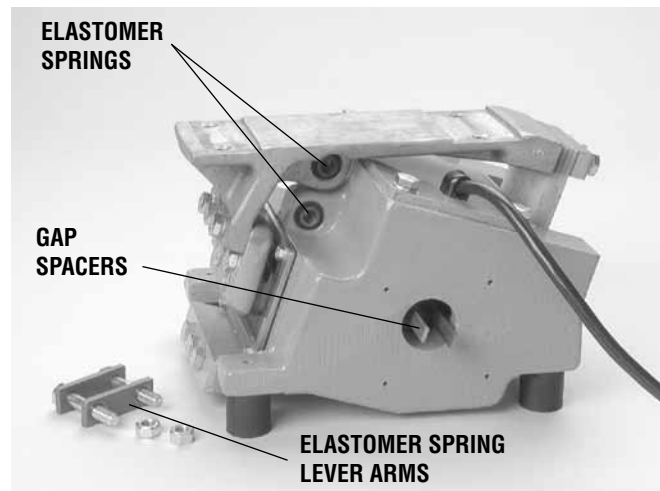

FIGURE 9
3. In replacing the elastomer springs, lay the unit on its side so that the chamfered ends of the spring holes are up. After making sure that the holes and their chamfered ends are clean and free from obstructions, lubricate the elastomer spring with a solution of water and 10% of liquid dishwasher soap (never use a petroleum or silicone lubricant) and press them partly into place with the thumbs. Then tap the springs back into place, again using the small supporting block between tiebar and work surface. Make sure that the springs go in straight and protrude equally at both ends of both spring holes (see Figure 9).